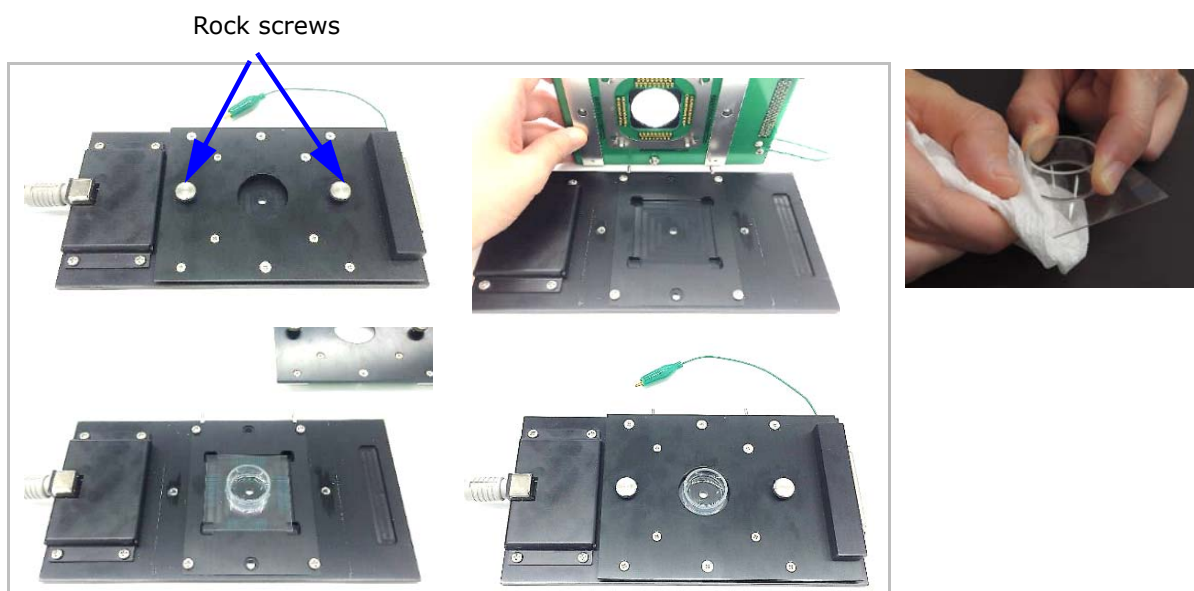

Figure 15. Mounting the MED Probe onto the MED ThermoConnector (left). Clean the terminal for the MED Probe with kimwipe before mounting the Probe (right).
2. Clean the terminal for the MED Probe with kimwipe before loaded. (Figure 15 most-right). Particularly, clean it with kimwipe soaked with 70% ethanol when a MED Probe is taken out from a humidified incubator.